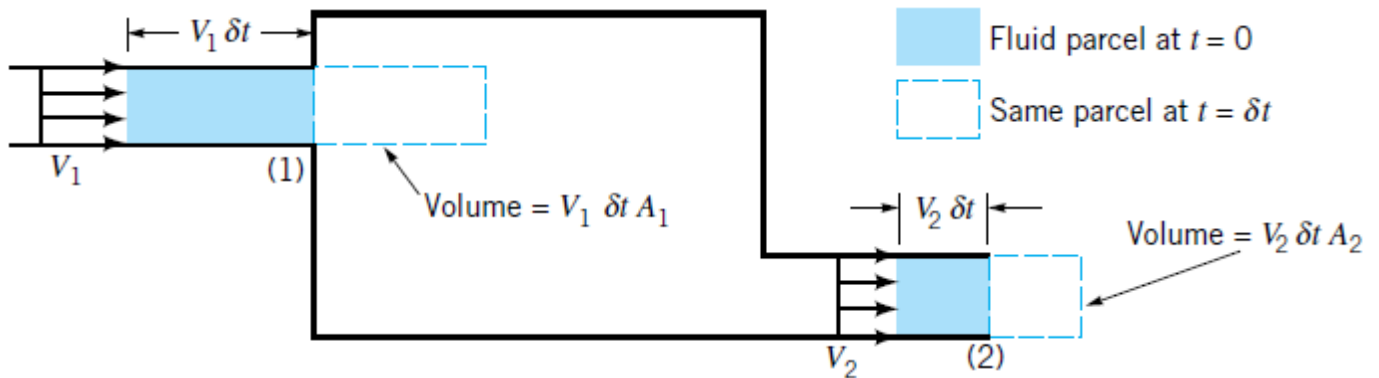

Fig.3: Steady flow into and out of tank.
Consider a fluid flowing through a fixed volume such as a tank that has one inlet (1) and one outlet (2) as shown in Fig. 3.